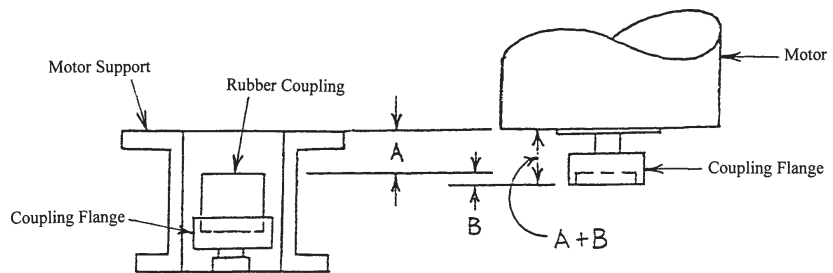

Figure 4.3 - Rubber Coupling Engagement
- b. Install shims (12,14 &15 on Dwg. 440.400.000.010) and tapered, roller bearing (6) cone onto the worm shaft.
- h. Install one coupling flange, with key (6) in place to the worm shaft; tighten the two set screws.
- k. Measure the distance from the top surface of the motor support to the top surface of the rubber coupling (“A” dimension) and add to this dimension the depth of the groove (“B” dimension). This groove is where the rubber coupling engages. Record this dimension (“A” + “B”). See Figure 4-3.